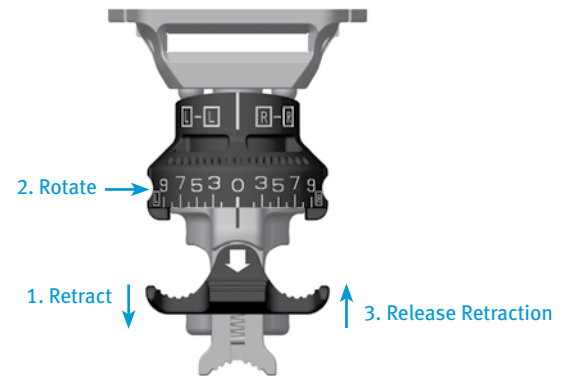

Fig. 4
- Retract the spring-loaded button on the top of the Femoral Valgus Alignment Guide and rotate the valgus adjustment dial to the desired valgus angle and release the button to lock the valgus angle from 0° to 9°, ensuring that the proper left or right setting is attained (Fig. 4).